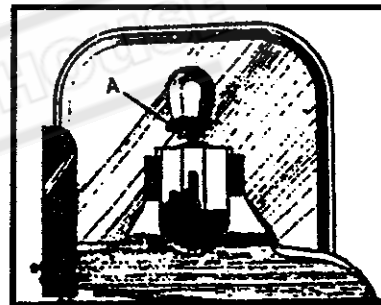

Fig. 18
On the back of the upper wheel there is a slide bracket to get the proper tension for various widths of blades with the blade on the wheels, turn the star wheel (A) Fig. 18 to raise or lower the wheel until you provide the right tension to your blade. Correct belt tension is obtained when there is approximately 1" (25.4mm) deflection in the center span of the pulleys with light finger pressure. Over straining is a common cause of blade breakage and other unsatisfactory blade performance. Relax the tension when the machine is not in use.